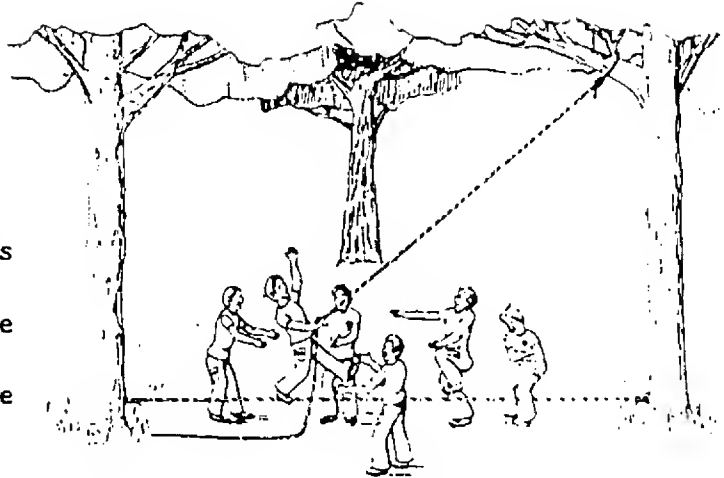

Figure 411 The Tension Traverse
32. The Tension Traverse: Secure a 30 foot cable or rope fairly tight between two trees about one foot off the ground. From one of the trees secure another rope about 20 feet up. This rope must be long enough so it will reach the other tree at the level of the first cable. Using only this rope as a balance, the object is to walk across the horizontal cable. See Figure 411.